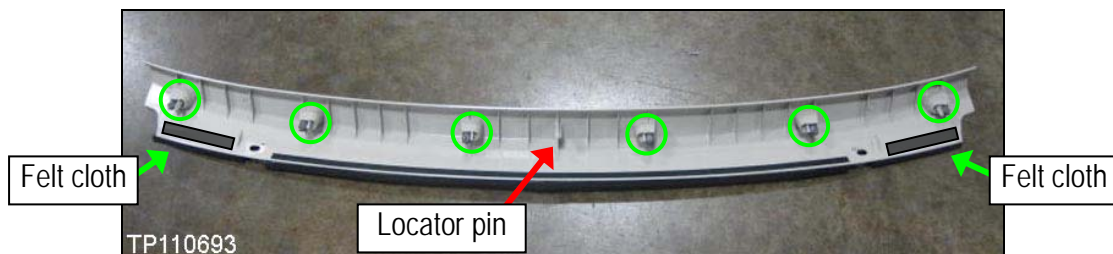

Figure 2
2. Cut two 10 mm x 100 mm pieces from the 1 mm sheet, and then install where shown in Figure 2.
3. Break off the locator pin with suitable pliers (see Figure 2).
4. Cut six 10 x 50 mm pieces from the 1 mm sheet, and apply to the clips as shown in Figure 3, and where circled in Figure 2.